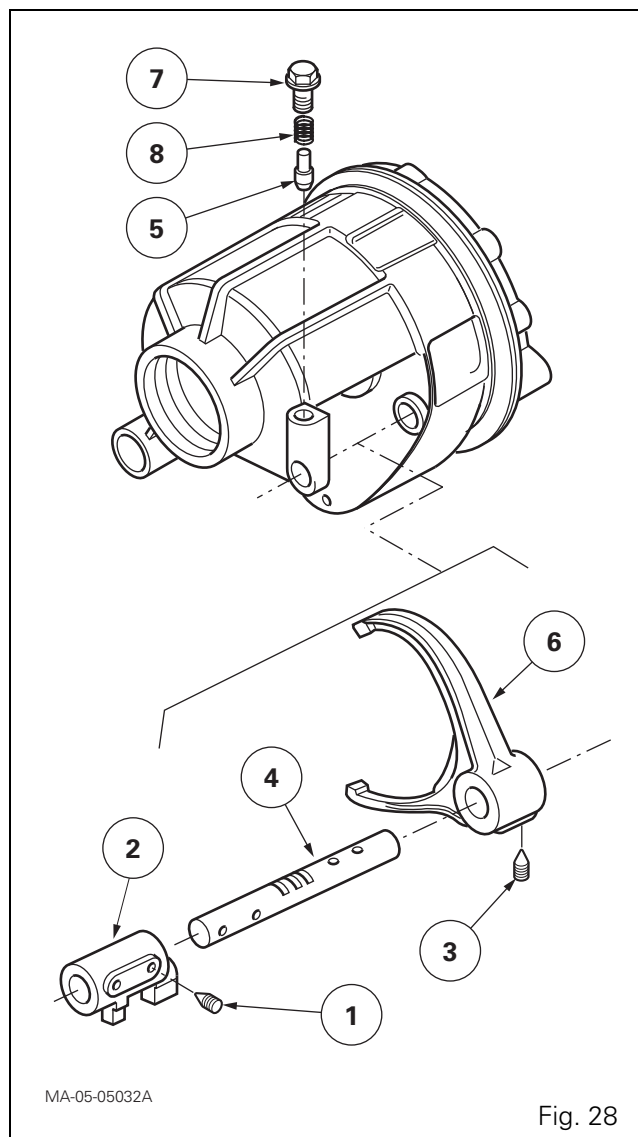
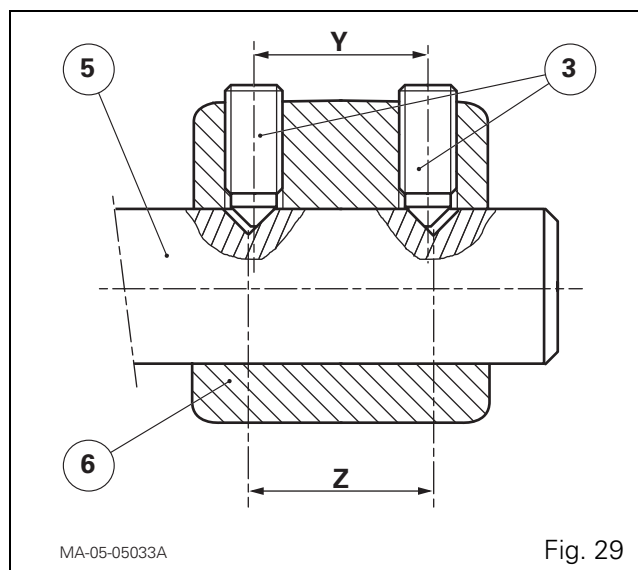

Fig. 28
Fig. 29
Adjusting the fork (Fig. 28 and Fig. 29)
The positioning of the fork (6) is obtained by the difference between the centre line "Y" of the holes and the centre line "Z" of the indents on the selector rail (5). A different fork movement is obtained either by adjusting the front screw or by adjusting the rear screw (3) according to the adjustment required (Fig. 29).
- 115.** Fit the detent plunger (5), the spring (8) and the plug (7).